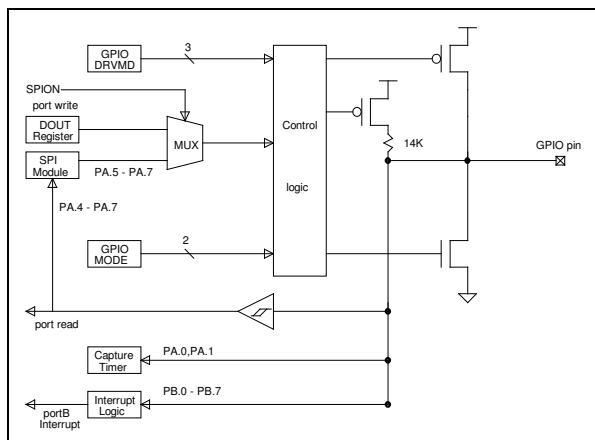

Figure 12-1 Block Diagram of GPIO port
*Figure 12-1* shows a diagram of a GPIO port pin.